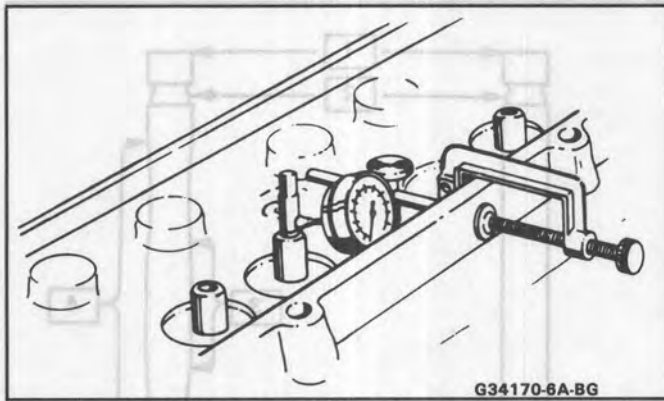

Figure 3 Measuring Valve Guide Clearance
- Valve seats may be reconditioned by grinding. An oscillating type valve seat grinder is preferred. Follow the grinder manufacturer's instructions. Refer to Figure 3 for seat angles. If, after grinding, the new seat is too wide, it may be narrowed by using a 20° or 70° stone. The 20° stone will lower the seat and the 70° stone will raise the seat. If the seats are reconditioned, the valves also must be reconditioned or replaced.